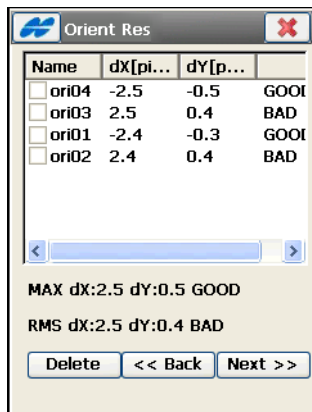

Figure 8-68. Orientation Results
- View the image orientation results on the ***Orient Res*** screen (Figure 8-68). The results for each Orientation Point is displayed as dX and dY in image pixels.